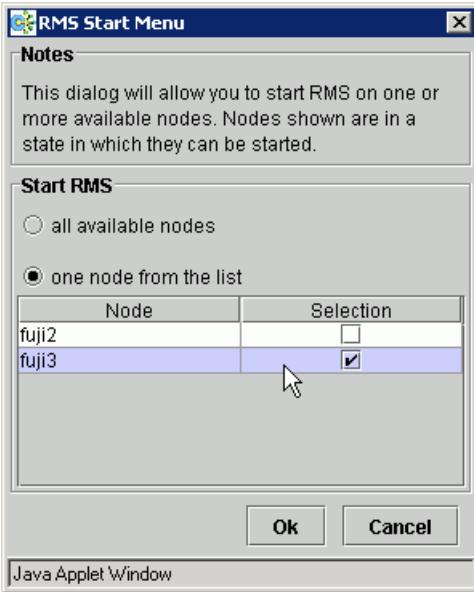

Figure 99: RMS Start Menu for individual nodes
- To start RMS only on selected nodes, click the *one node from the list* radio button; select the desired node or nodes using the checkboxes in the *Selection* column; and then click *OK* (Figure 99).